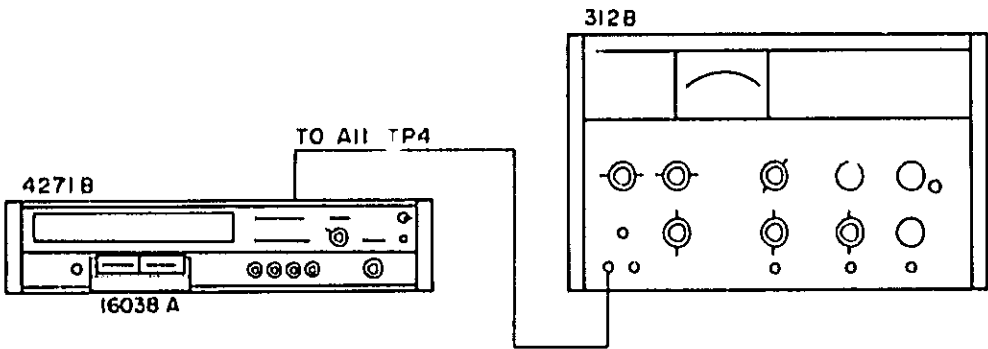

Figure 5-7. Modulator Offset Adjustment.
- a. Connect as shown in Figure 5-7.